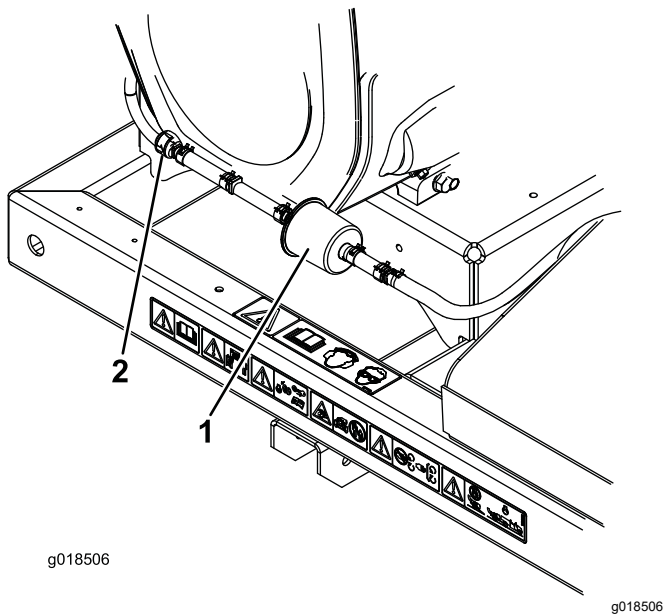

Figure 21
2. Move the spring-type hose clamps on both sides of the carbon canister purge-line filter away from the filter (Figure 21).
3. Remove and discard the carbon filter (Figure 21).
4. Install a new filter into the hose with the arrow on the filter pointing toward the check valve and secure it with the hose clamps (Figure 21).